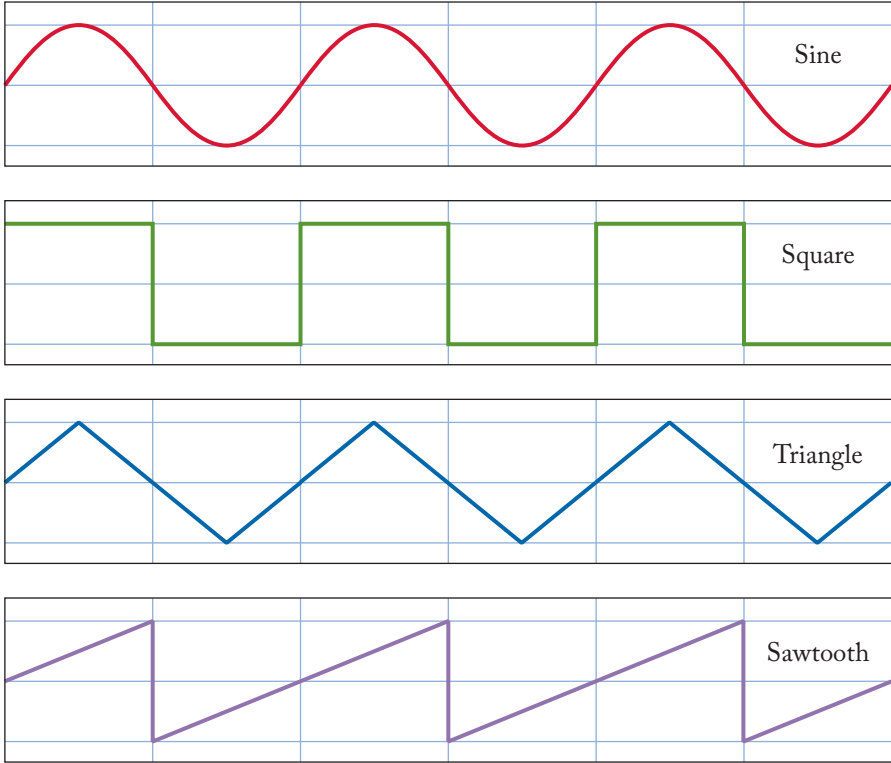

Figure 3.1: Typical test waveforms.
These two simple examples show the need for a device that is capable of producing different signals. Such a device is called a Function Generator (FG). An FG (sometime called a signal generator) is used to generate different types of electrical waveforms over a wide range of frequencies. Some of the most common waveforms produced by the FG are the sine wave, square wave, triangular wave, and saw tooth shapes (Fig. 3.1).